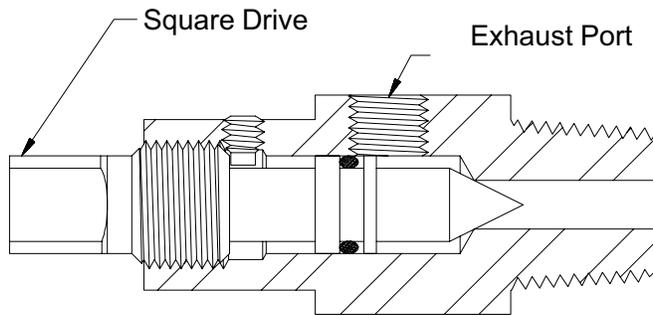

Figure 5. Body Pressure Relief Valve
3.1 M&J M-303 Gate Valves provide block and bleed capability in either full open or full closed position. This feature allows body pressure to be vented while pressure is maintained in the pipeline. Block and bleed capability can be used to verify seat integrity and provide for draining and/or flushing of the valve cavity. All M-303 valves are equipped with a body pressure release valve (see Figure 5). This valve is located in the bonnet on 12" and smaller valves or in the cupola for 14" and larger valves. (See Figure 6.)
3.2.2 Using an appropriate wrench, turn the square drive on the vent fitting (see Figure 5) to release the body cavity pressure.
CAUTION: Direct the exhaust port on the vent fitting (see Figure 5) away from personnel.
3.3.2 Using an appropriate wrench, turn the square drive on the vent fitting (see Figure 5) to release the body cavity pressure.